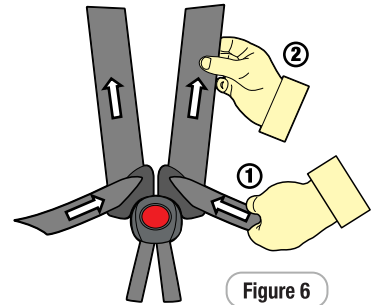

Figure 6
**Step 5:** Remove all of the slack for the harness lap straps by pulling shoulder straps (refer Figure 6), then pull the harness adjustment strap to adjust harness to a comfortable but firm fit (refer Figure 6 & 7).